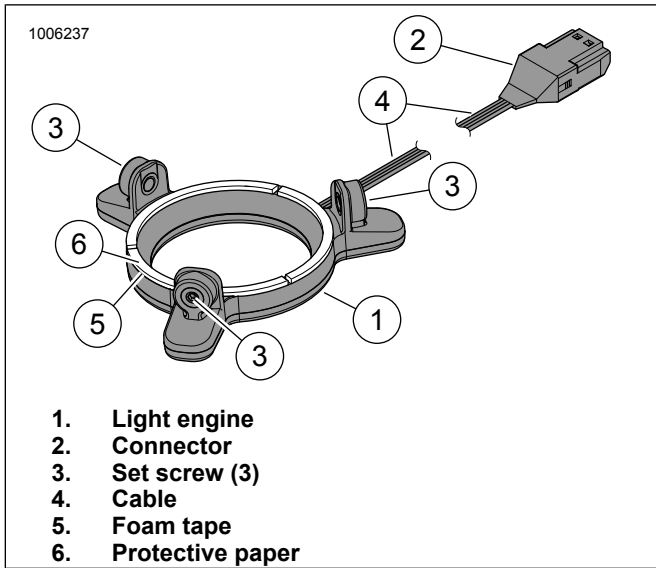

Figure 14. LED Light, Round Stage II Speaker
6. See Figure 14. Remove protective paper (6) from foam tape (5) on back of light engine (1).